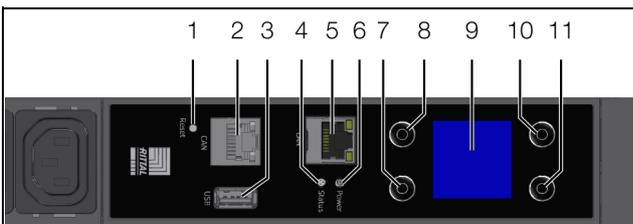

Fig. 13: Control and display elements and connections of the PDU metered/switched/managed
After connecting the PDU to the power supply, the green power LED (fig. 13, item 6) will be illuminated, and the PDU will start to boot automatically. If connected to a network, the Link and Status LEDs on the RJ 45 jack will be illuminated (fig. 13, item 5). After a few seconds, the multi-LED for status display will start to flash blue, indicating that booting is in progress (fig. 13, item 4).